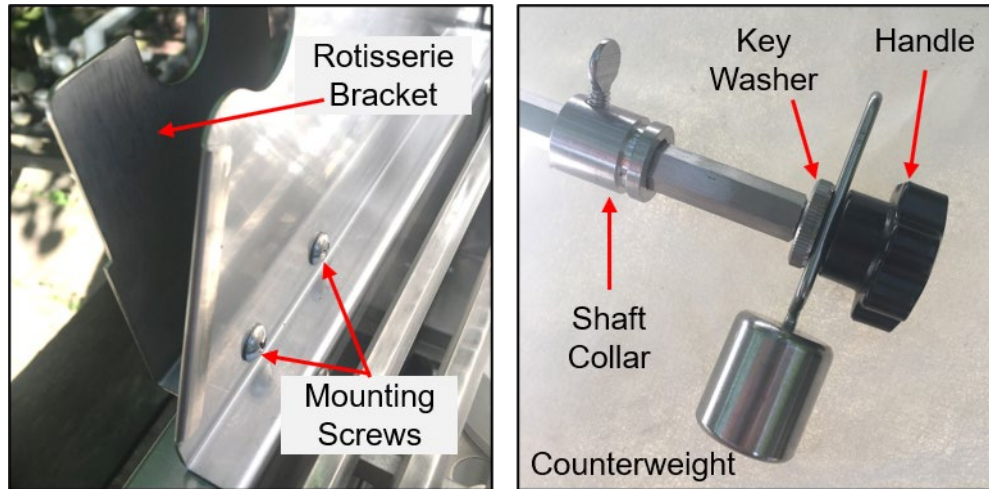

Figure 33 Rotisserie Setup 1
2. Use a Phillips head screwdriver to tighten the mounting screws until they are tight (Figure 33 left)
4. Screw the threaded Key Washer on all the way until tight (Figure 33 right)
5. Place the Counterweight over the threads and screw on the black handle to hold the counterweight in place (Figure 33 right)